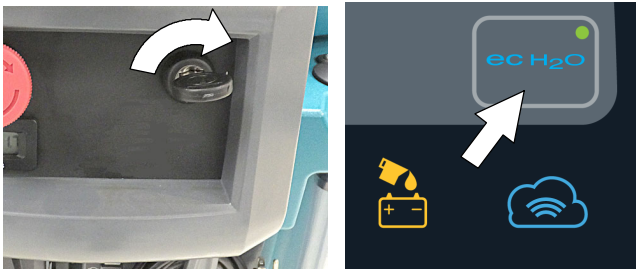

FIG. 36
3. ec-H₂O models - The ec-H₂O system automatically turns on at each key start. A blue ec-H₂O indicator appears when machine is equipped with the ec-H₂O option. The green LED illuminates when ec-H₂O is activated. To turn off the ec-H₂O system, press the ec-H₂O button. The green LED indicator will disappear (Figure 36).
ATTENTION: When conventional scrubbing with cleaning detergents in solution tank, make sure to turn off the ec-H₂O system by pressing the ec-H₂O button (Figure 36). If cleaning detergent is accidentally cycled through ec-H₂O system, a system fault will occur. To clear fault, drain solution tank, add clear water and operate the ec-H₂O system to clear fault. If fault repeats, continue to recycle key until fault clears. See SERVICE INDICATOR CODES for further detail.